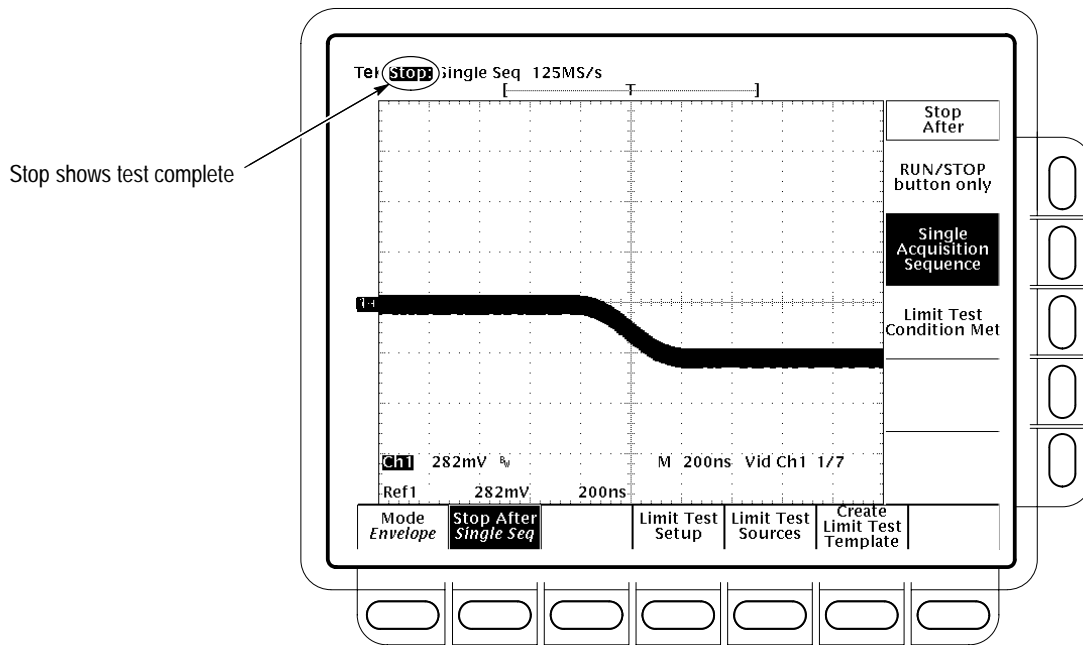

Figure 1–28: Jitter test when completed – TDS 684B shown
- v. Confirm that the oscilloscope successfully makes 100 acquisitions. If not successful, the oscilloscope bell will ring. When the word **Run** in the top left corner of the display changes to **STOP**, the test is complete. See Figure 1–28.